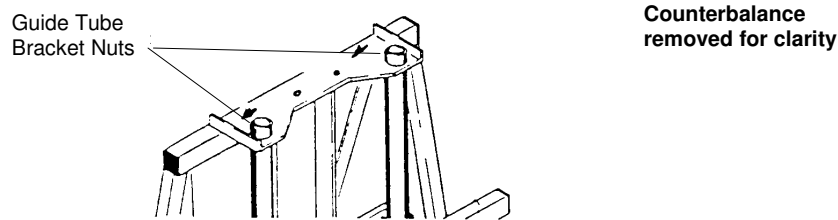

Figure 34: Aligning the Guide Tubes
1. Loosen the guide bracket nuts (Figure 34), but **do not remove** the bracket. Using a dead blow mallet, strike the bracket on the side and in the direction you wish the guides to go. **Do not strike the guides.**